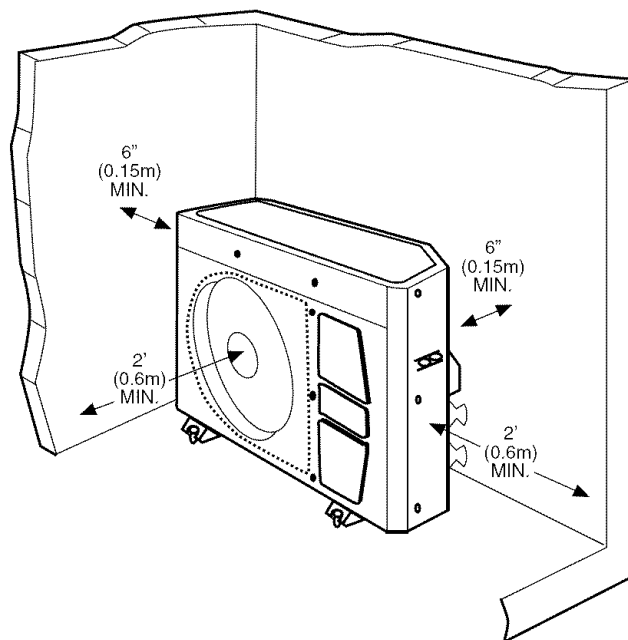

Fig. 1 — 38BNB,BNE Outdoor Unit Clearances
- Allow sufficient space for airflow clearance on condensing units for wiring, refrigerant piping, and servicing unit. See Fig. 1 and 2 for minimum required distances between unit and walls or ceilings.